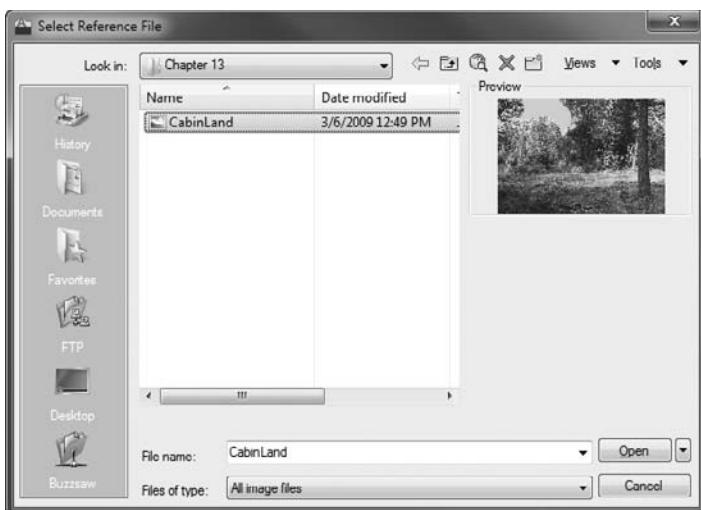

FIGURE 13.29 Selecting the image to be referenced in the Select Reference File dialog box
3. Most of the common image file formats are compatible with AutoCAD 2011. Navigate to the CabinLand.jpg file included with the download for this chapter, and then click the Open button (see Figure 13.29).